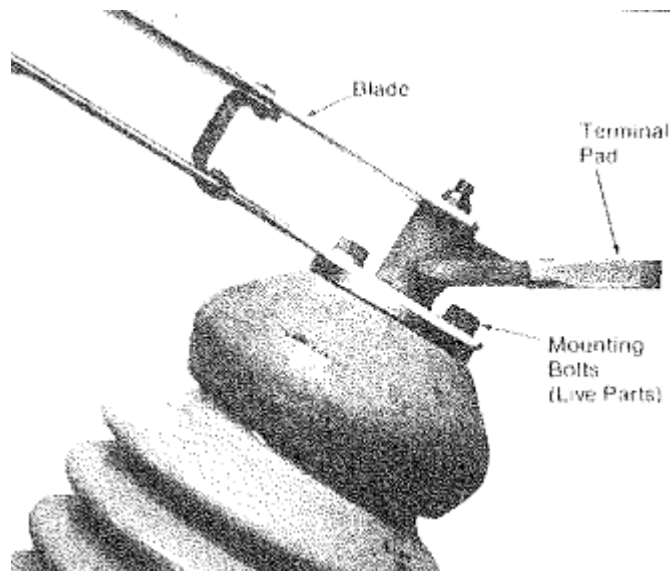

Figure 2: Live Parts Mounting
3. Install male blade to top of insulator with mounting bolts supplied (**Figure 2**). Note that male blade is on the same side as operating lever.